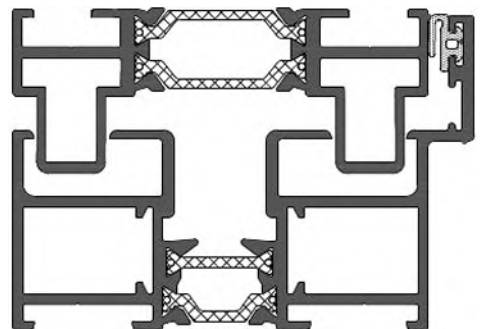

Fig 1.
2 a) Insert the 2 corner chevrons into the grooves in the frame head (Fig 1).
b) Insert the mechanical corner cleats into the frame head (Fig 1).
- 2 g)** Insert the foam sealing block supplied into the channel of the integrated cill (Fig 1).
- i)** Once the jambs are aligned onto the cill, silicone dip the machine screws provided and secure (Fig 1).